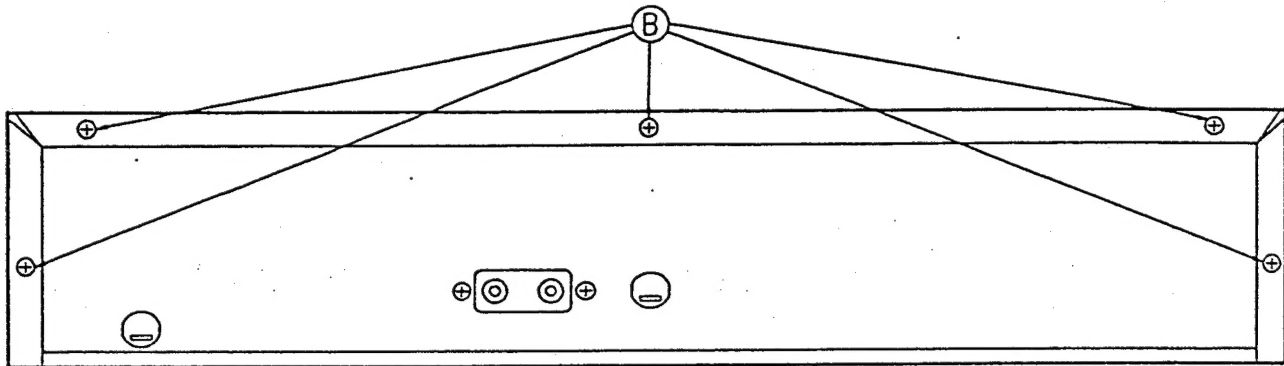

Figure 2
2. Remove 5 screws (B) from back panel of top cover. (See Fig. 2)